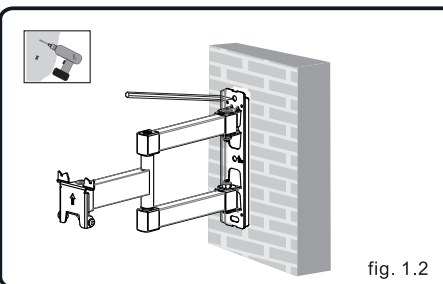

fig. 1.2
- . Use the wall plate as a template to mark 3 holes locations on the wall, as shown fig. 1.2.